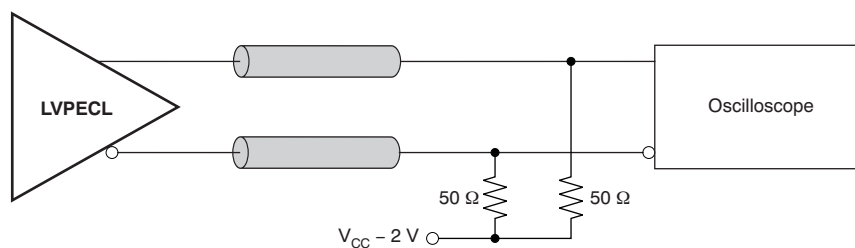

Figure 8. LVPECL Output DC Configuration During Device Test
(1) Figure 8 and Figure 9 show dc and ac test setup.